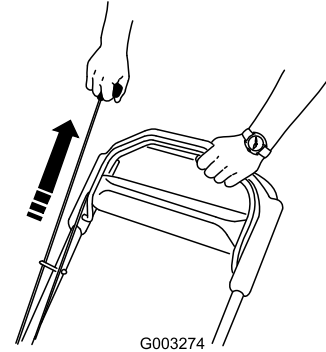

**Figure 13**
1. Pull the blade control bar to the handle (Figure 13).